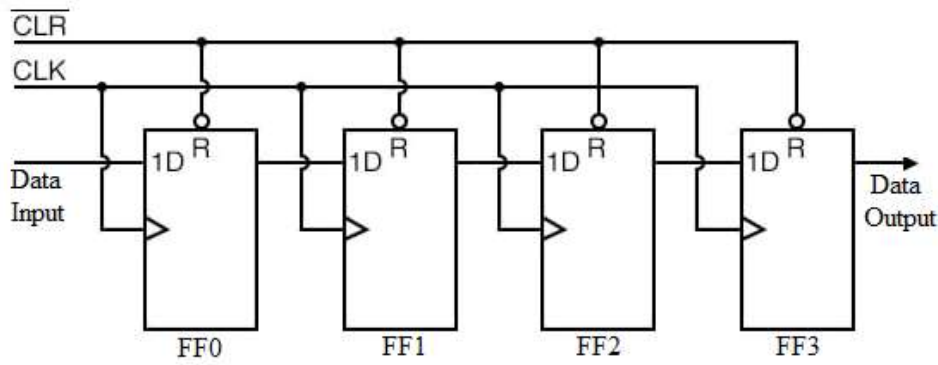

Fig. 3.1 Logic Diagram of Serial in serial out shift register
3.2.1 Serial in serial out shift register: A basic 4-bit shift register can be constructed using four D flip-flops, as shown in Fig. 3.1. The register is first cleared, forcing all four outputs to zero. The input data is then applied sequentially to the D input of the first flip-flop from the left (FF0). During each clock pulse, one bit is transmitted from left to right. The least significant bit (LSB) of the data is the first to be shifted through the registers i.e. from FF0 to FF3.